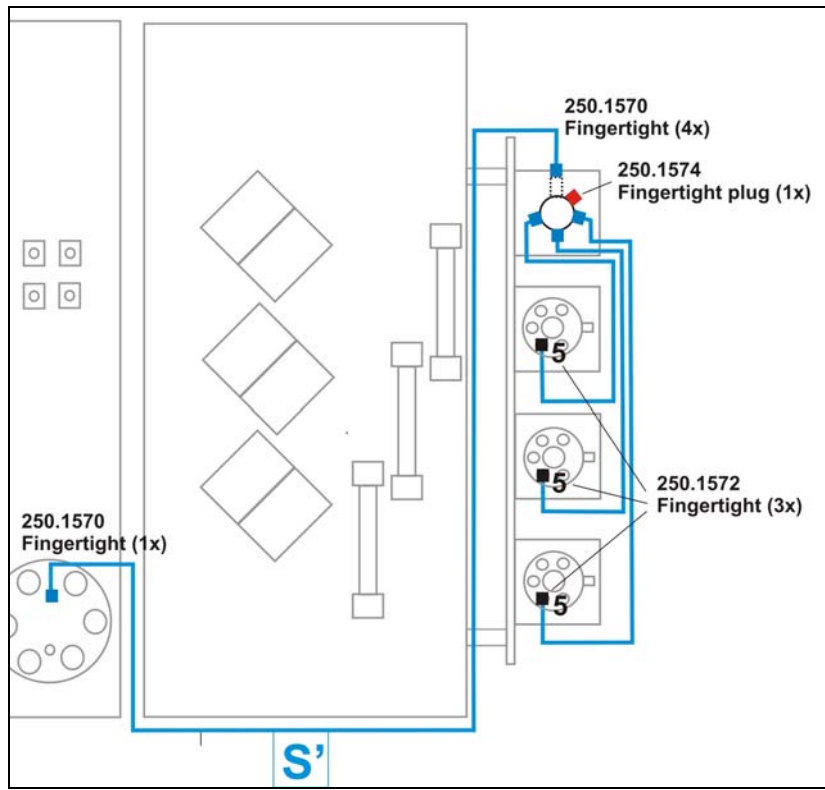

Figure 11. Connection of assembly S', TCC parallel configuration.
- c. Connect one end of the 75 cm PEEK tubing to the outlet of the OR 100 pulse damper, using the supplied PEEK fingertight p/n 250.1570 (see figure 11). Guide the tubing under the bottom plate of the DECADE II to the other side, and connect the other end of the tubing to the guard column on the 4-port manifold using a fingertight (p/n 250.1570).
- e. In case of the installation of a TCC parallel configuration, see figure 11 on the next page. Connect the ends of the three 30 cm long PEEK tubing pieces to the three outlet ports of the manifold using fingertights p/n 250.1570. Subsequently connect the opposite tubing ends to port 5 of the three 6-ports valves using the supplied narrow fingertights (p/n 250.1572).